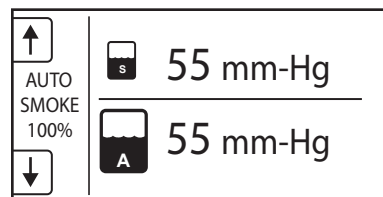

Figure 5 Smoke Evacuator Power Control Screen
3. When smoke evacuation is required, push the SMOKE EVACUATOR button on the control panel. The button has three modes of operation: manual, automatic, and off. Push the button once for manual mode, twice for automatic mode (AUTO), and a third time to stop the smoke evacuator. From the smoke evacuator screen on the control panel display, push the buttons next to the arrow icons to increase or decrease the evacuator power level as required (see figure 5).